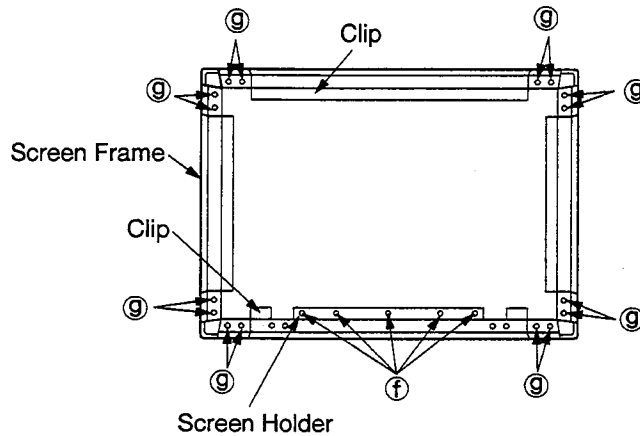

Fig. 5-5
2. Remove 5 screws (f) retaining the Screen Holder. [Fig. 5-5]